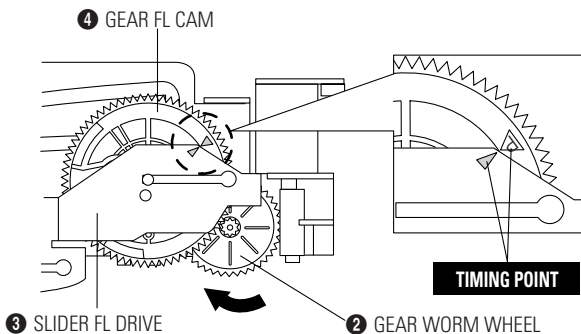

Fig. 4-15
- 3) Turn the gear worm wheel ② clockwise so that "Timing Point" of the slider FL drive ③ and gear FL cam ④ can be aligned (See Fig. 4-15)